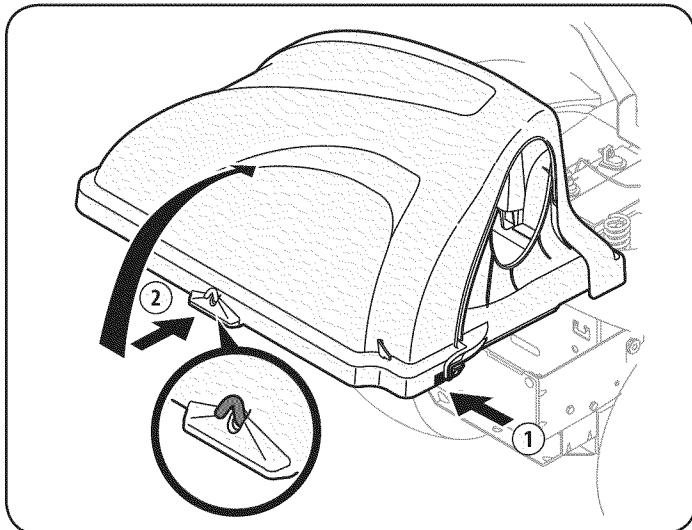

Figure 14
- Open Hood by pushing in on the rear, right-side tab with your right hand, as seen in 1 of Figure 14, and lifting the cover with your left hand in the center rear of the bagger cover, 2.